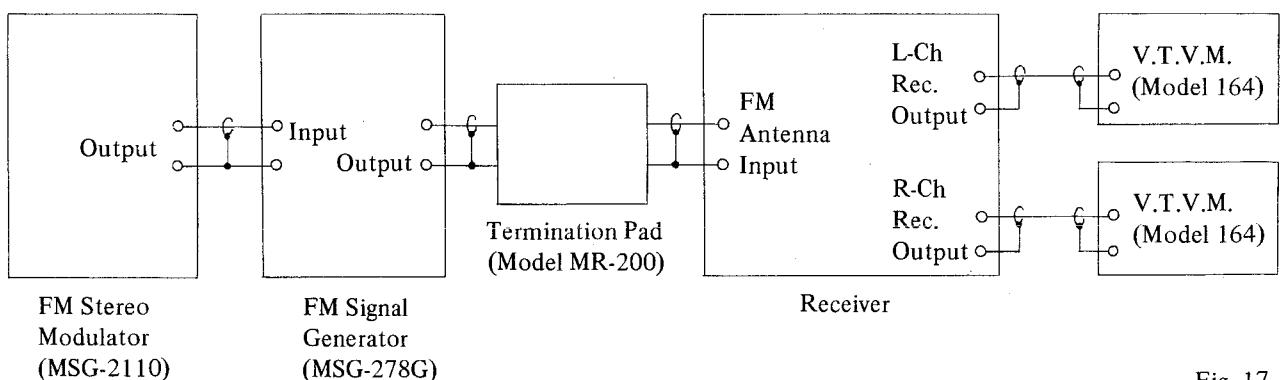

Fig. 17
- 1) Connect the various measuring instruments as shown in Fig. 17.
- 6) After the above adjustments have been completed, adjust the core of FM MPX. Amp. P.C. Board coil T303 so that the indication of the high sensitivity V.T.V.M. connected to the left channel Rec. output is maximum. (For measuring instrument connection method, refer to Fig. 17.)
- 7) Adjust main chassis semi-fixed resistor VR551 (5 kB) shown in Figs. 1 and 3 so that the indication of the high sensitivity V.T.V.M. connected to the right channel Rec. output is minimum. (For measuring instrument connection method, refer to Fig. 17.)